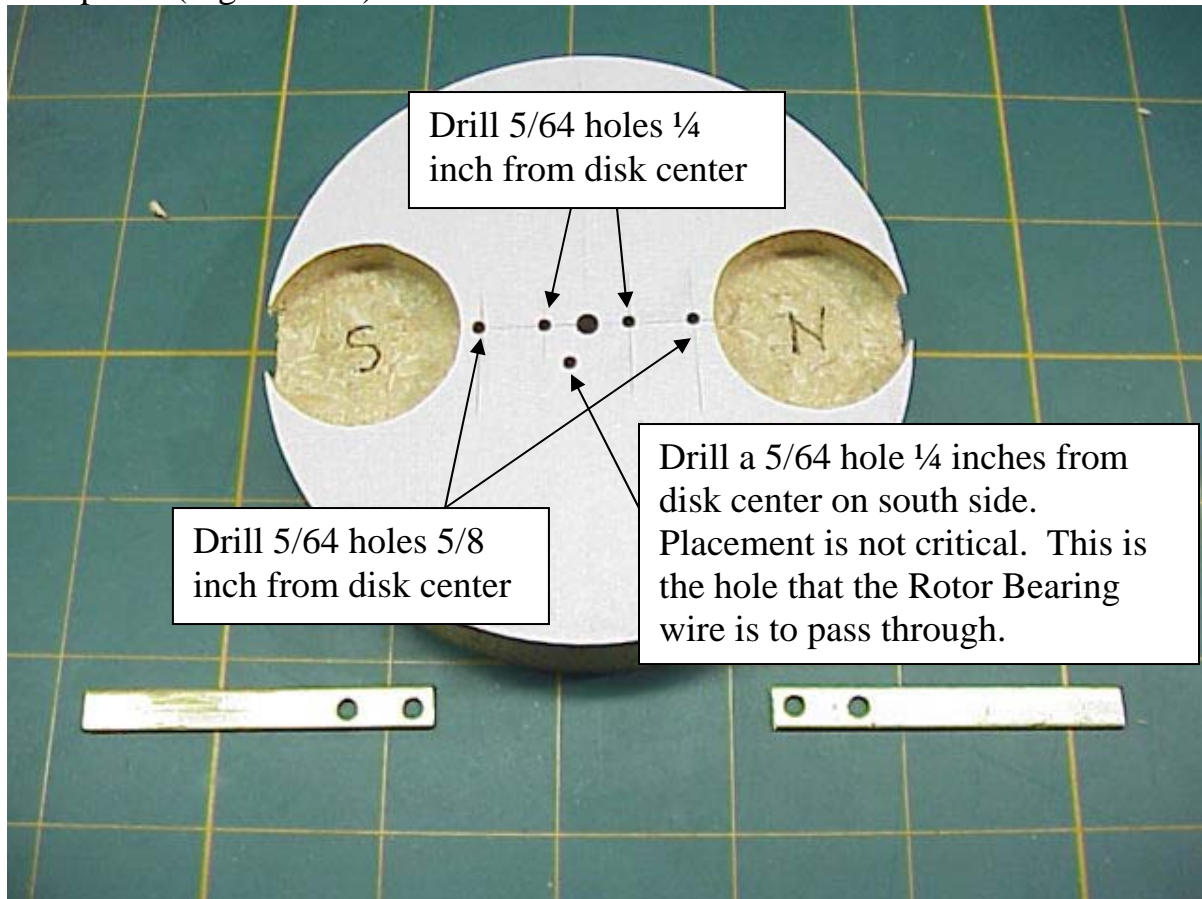

Figure 3-28: Drilling and marking Rotor top
2) Using a $\frac{5}{64}$ inch drill bit drill 5 holes in the top of the rotor as shown in the next photo (Figure 3-28).